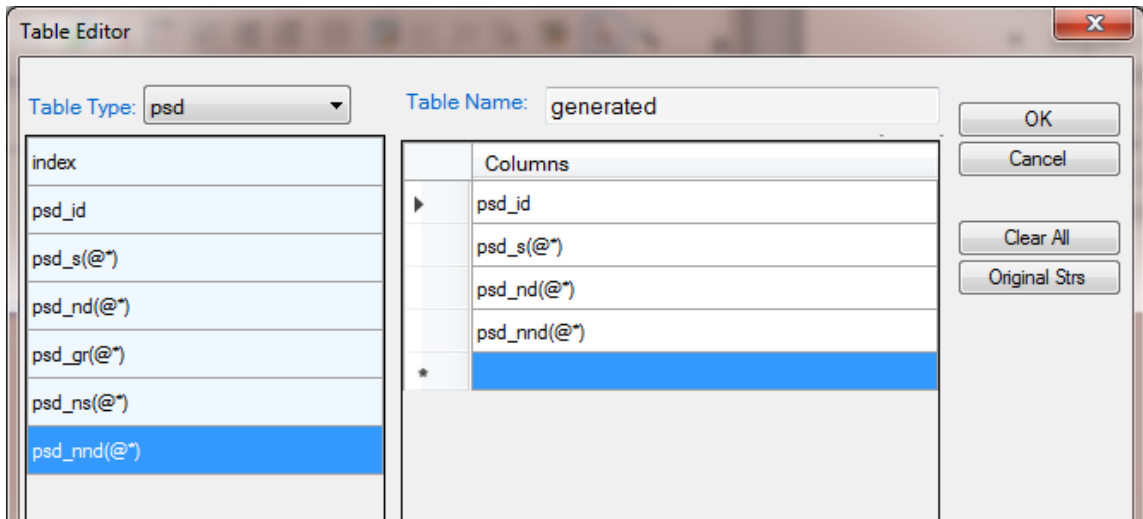
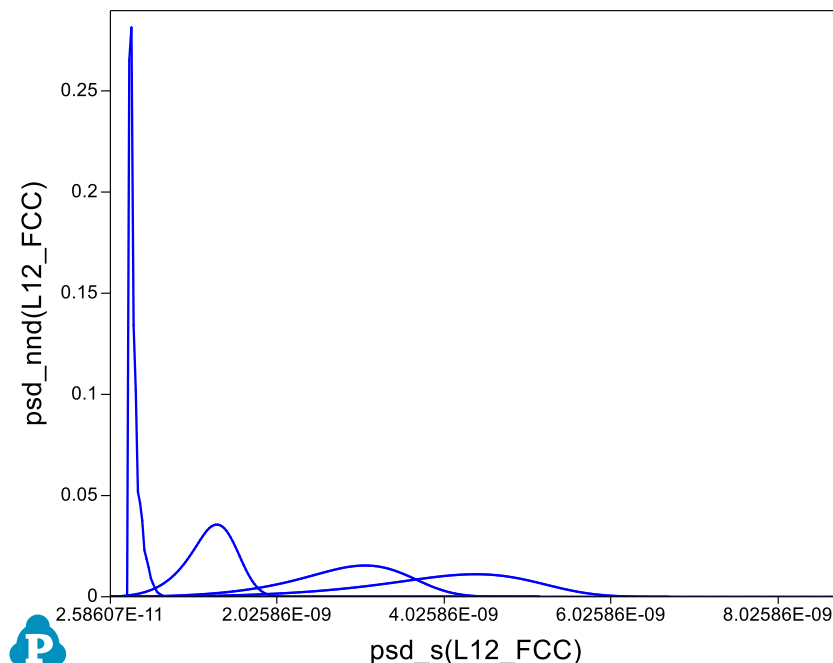
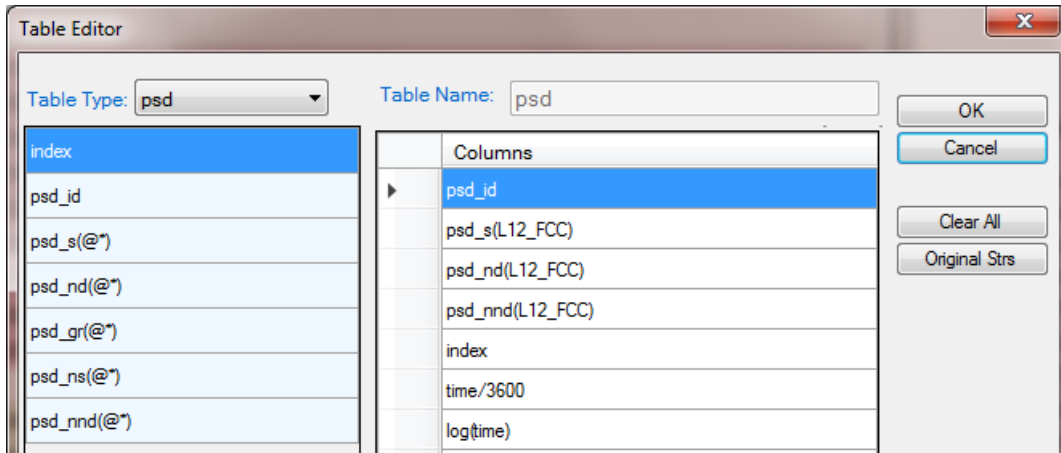

Figure 3.1.9: Create a new table for particle size distribution
Figure 3.1.10: Plot of particle size distribution
Figure 3.1.11: List the index and corresponding time for each size distribution curve
- Create a new table as shown in Figure 3.1.9, select psd as the Table Type; select the psd_s(L12_FCC) and the psd_nnd(L12_FCC) two columns to create a new plot as shown in Figure 3.1.10;
- The $psd_nnd(L12_FCC)$ in Figure 3.1.10 is normalized number density, which equals to the particle numbers of each size class divided by the total particle numbers;
- Figure 3.1.10 shows four distribution curves at four different times. The sharp one is at early nucleation stage which shows small particle size and high number density, the flat one shows the particle size distribution as final time (100 hours in this simulation). The corresponding time of each distribution can be found in the table. When create the table, simply put this time information in the table as shown in Figure 3.1.11;